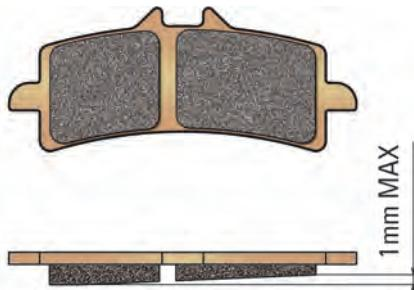

Fig. 7
- c. Pad radial wear difference must not exceed 1 mm MAX (see fig. 7). Defective or excessively worn pads must be changed.